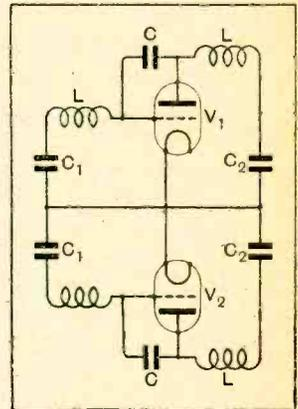

Fig. 19.—Circuit of Fig. 18 as it would appear so far as a parasitic oscillation of supersonic frequency is concerned. See Fig. 18 for meaning of symbols.
inductances of the transformer windings are sufficiently high to be regarded as enormous impedances. Hence they can be left out of account. There remain (1) the interelectrode capacities; (2) the capacities of the transformer windings; (3) the inductances of the leads. These three components have been reassembled in their respective positions in Figs. 19 and 20. The oscillatory circuit A B E D of Fig. 20 resembles the form of circuit used for the generation of radio oscillations of short wavelength. Since L and C are relatively small, the frequency of the corresponding parasitic oscillation will be relatively high, and therefore supersonic.
Fig. 20.—Circuit of Fig. 19 simplified by redrawing and omitting the connection from the junction of C_2C_2 and of C_1C_1 to the common filament lead. A B E D is an oscillatory circuit of supersonic frequency.